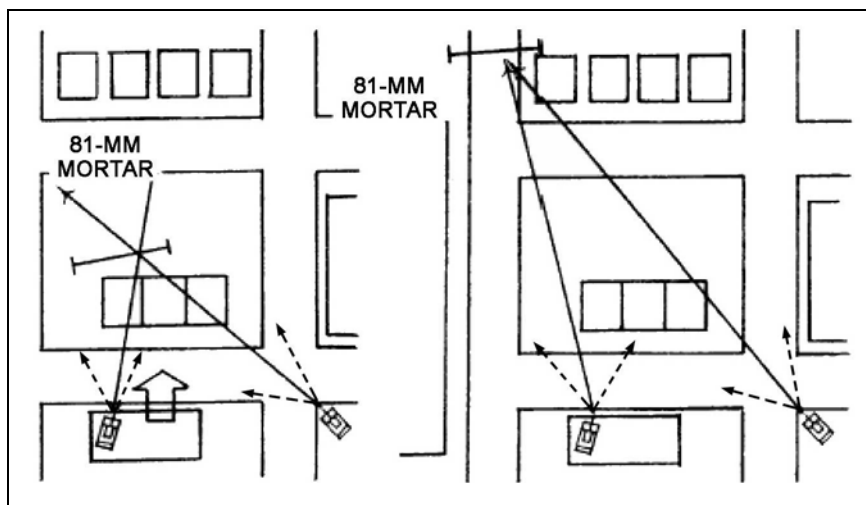

Figure E-7. Isolation of a building and shifting of fires.
g. **Isolation of a Building.** To isolate a building, the BFVs take an overwatch position (Figure E-7). They fire the 25-mm gun and 7.62-mm coax machine gun. They adjust indirect fire to suppress enemy troops in the building and in nearby buildings who can fire at the assault element.